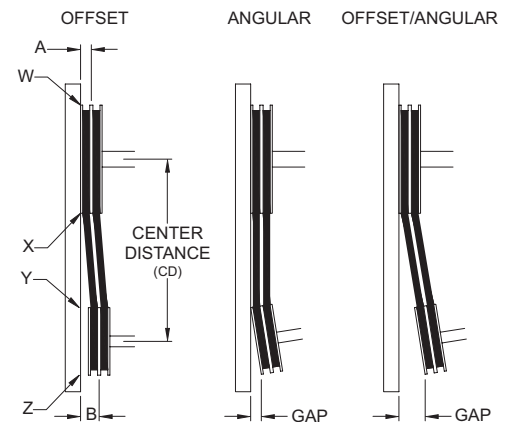
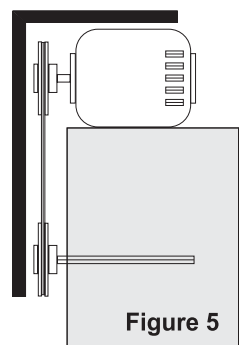

Figure 4
Figure 5
4. Ensure pulleys are properly aligned. Refer to Figure 4.
Figure 4 indicates where to measure the allowable gap for the drive alignment tolerance.
All contact points (indicated by WXYZ) are to have a gap less than the tolerance shown in the table. When the pulleys are not the same width, the allowable gap must be adjusted by half of the difference in width (as shown in A & B of Figure 4). Figure 5 illustrates using a carpenter's square to adjust the position of the motor pulley until the belt is parallel to the longer leg of the square.